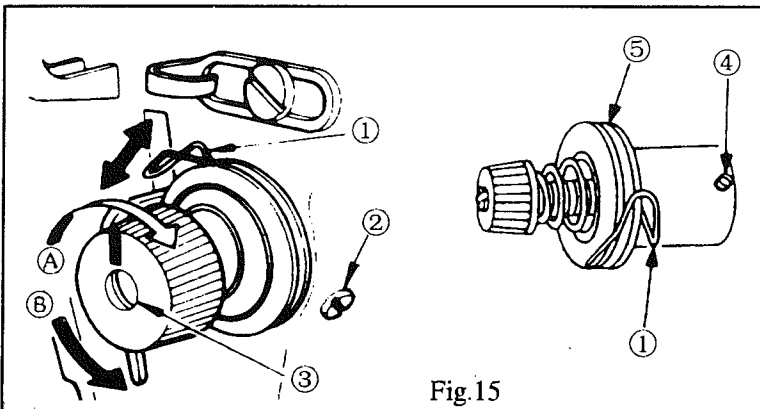

Fig.15
9. THREAD TAKE-UP SPRING (Fig. 15)